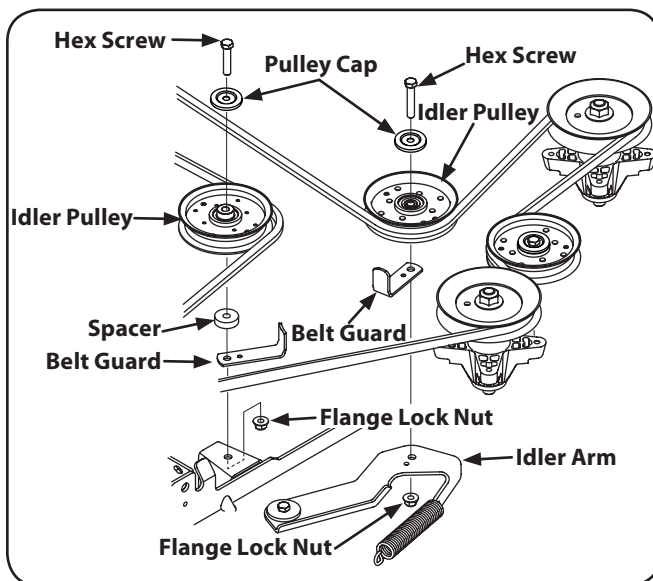

Figure 7-12
- Remove the two idler pulleys by removing the hex screws and flange lock nuts that secure them to the deck and the idler arm. See Figure 7-12. Do not lose any of the hardware when removing the hex screw and flange lock nut.
- Place the belt around the idler pulleys removed in step 3 with the "V" side facing in. Once in place, reinstall all the hardware and tighten the flange lock nut to secure the assembly. See Figure 7-12.
- Route the belt as shown in Figure 7-12 and then reinstall the deck.